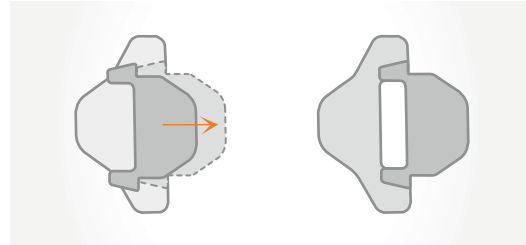
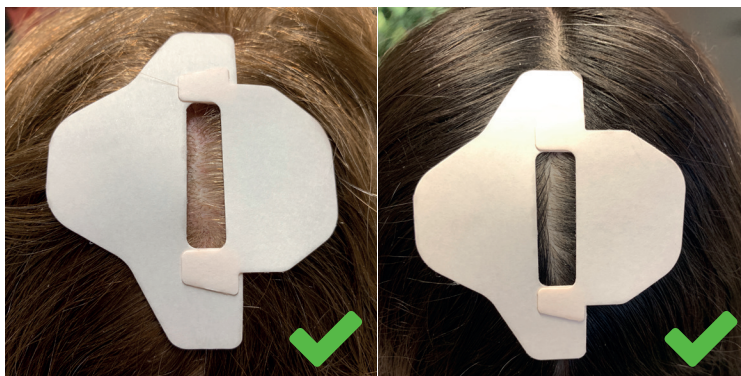

Figure 10: HairLock Part 1 and 2 correctly applied.
Figure 11.a: Parting in hair, with HairLock correctly applied: a strip of skin is exposed in the Hairlock slot.
- Make a vertical parting line in the hair and apply the self-adhesive HairLock, as it helps to gently keep surrounding hair out of the way. First apply Hairlock part 1 (see Figure 9), and then apply part 2 (see Figure 10). If HairLock part 1 and 2 are correctly applied on the head, a strip of skin is exposed in the slot between HairLock part 1 and 2 (see Figure 11.a.).
Figure 11.b: HairLock not correctly applied, there is no parting in the hair, and there is no skin exposed. Furthermore, HairLock part 2 is not correctly aligned.